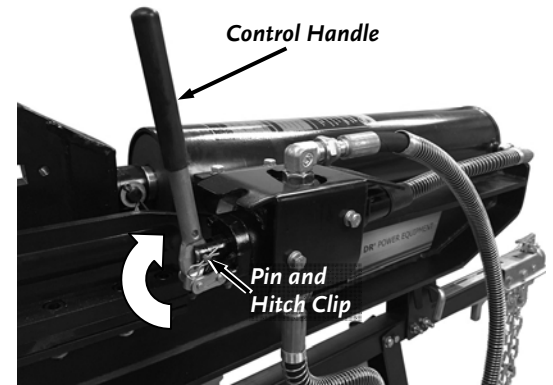

Figure 27
1. Remove the Pin and Hitch Clip from the Control Valve (**Figure 27**).